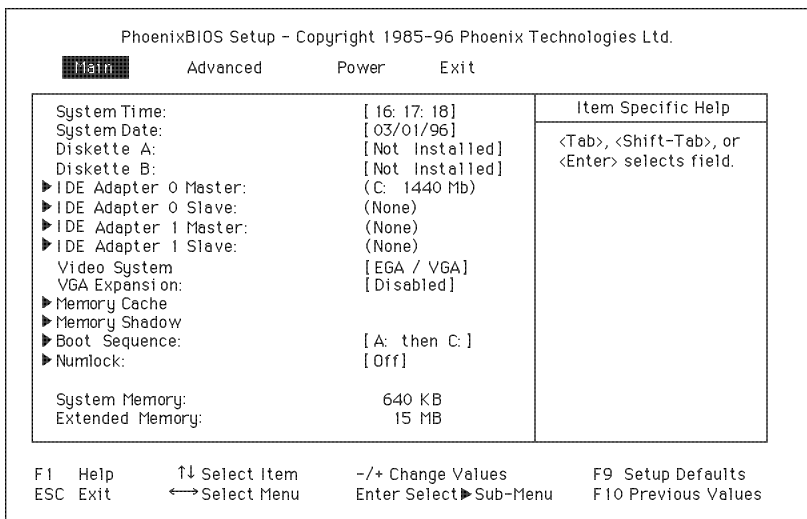

Figure 17 — Main BIOS Setup menu.
This menu enables or disables various keyboard features, including enabling the <NumLock> key, enabling the key click, and setting the keyboard auto-repeat rate and delay. The NumLock setting displays for this entry in Figure 17.
**The default is A: then C:.** The selected boot sequence setting displays in the *Boot Sequence* sub-menu field in the *Main* menu (see Figure 17).